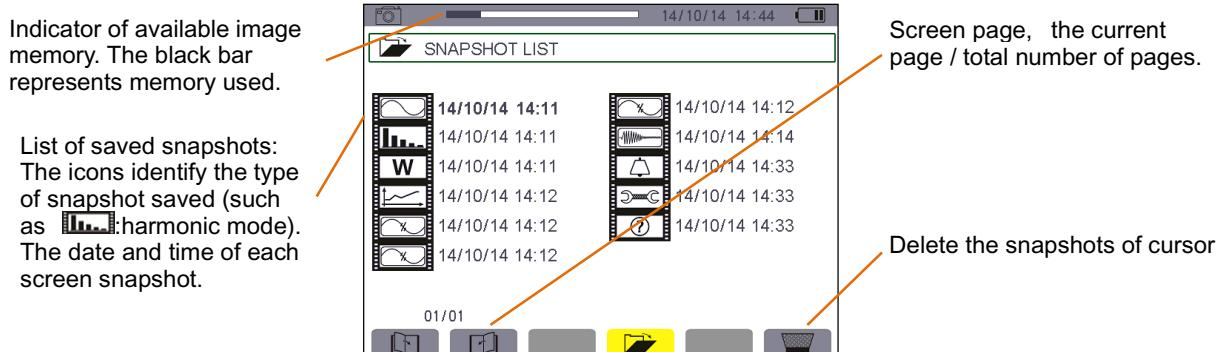

Figure 12-2: Example of the snapshot list display screen
Press  briefly to display this list. The screen presents the list of snapshots (see figure 12-2).
- ★ Press . The  icon is active and the snapshot list screen is displayed (see figure 12-2).
From the list of snapshots (see Figure 12-2 for example).